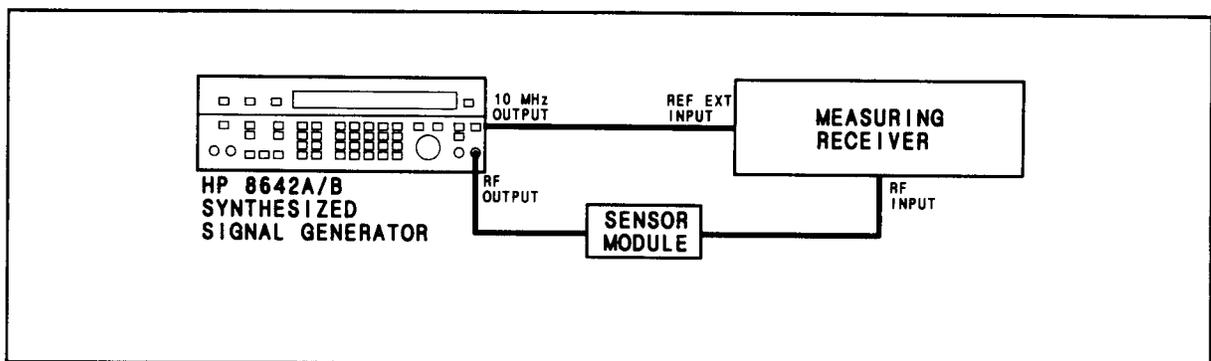

Figure 4-3. Pulse Test Setup
1. Connect the instruments as shown in Figure 4-3.